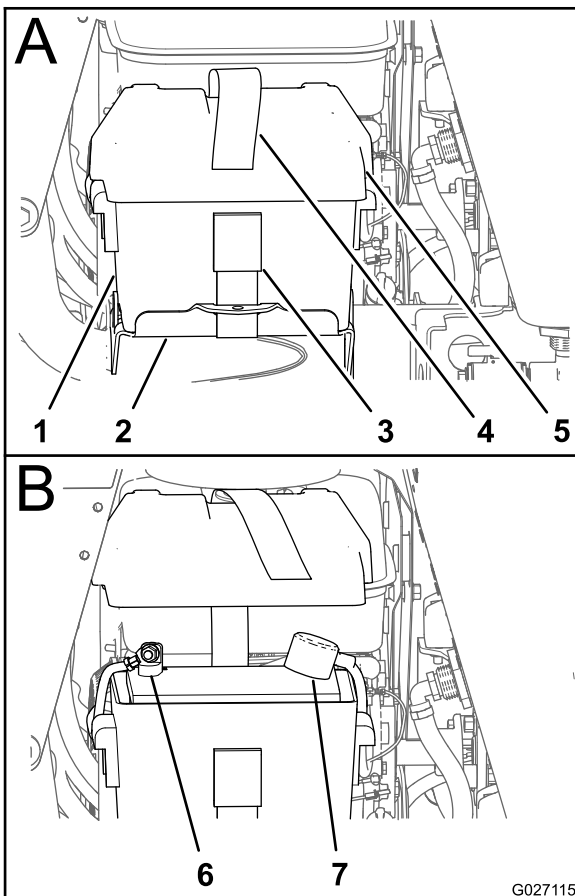

Figure 87
2. Remove the free end of the battery strap from the buckle and remove the battery cover from the battery box (Figure 87).
5. If the positive cable is also disconnected, connect the **positive (red) cable** to the positive battery terminal and slip terminal cover over the positive terminal (Figure 87).
7. Align the battery cover to the battery box and secure the cover and box to the battery tray with the battery strap (Figure 87).
2. Remove the battery cover (Figure 87); refer to step 2 of Checking the Battery Charge \(page 64\).
6. Align the battery cover to the battery box and secure the cover and box to the battery tray with the battery strap (Figure 87).